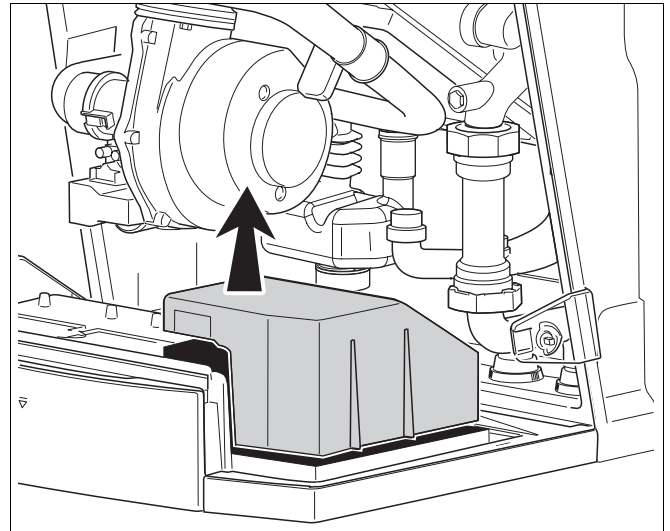

Fig. 28 Removing the cover from the external connection box
- Remove the cover of the external connection box (fig. 28).